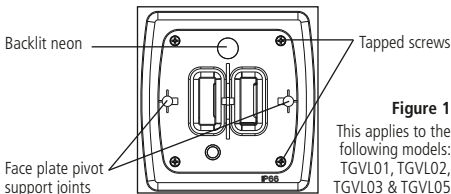

Figure 1
2. Remove the black coloured rocker switch from the faceplate pivot support joints using a suitable flat ended screwdriver. Using a Philips screwdriver, separate the faceplate from the back box by removing the four tapped screws located in each corner. See figure 1.